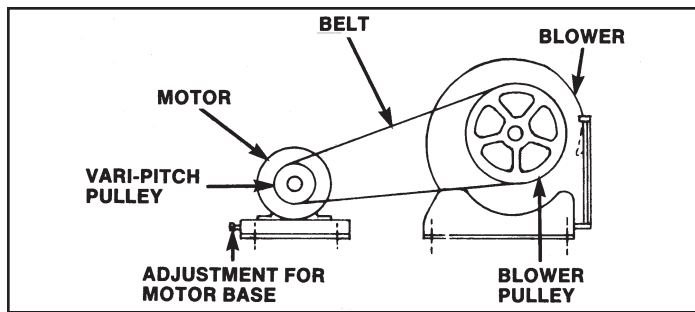

Figure 1
3. Check for drive belt tension and wear. One half inch movement (with finger pressure) at the belt mid-point indicates correct tension. Refer to Figure 1.